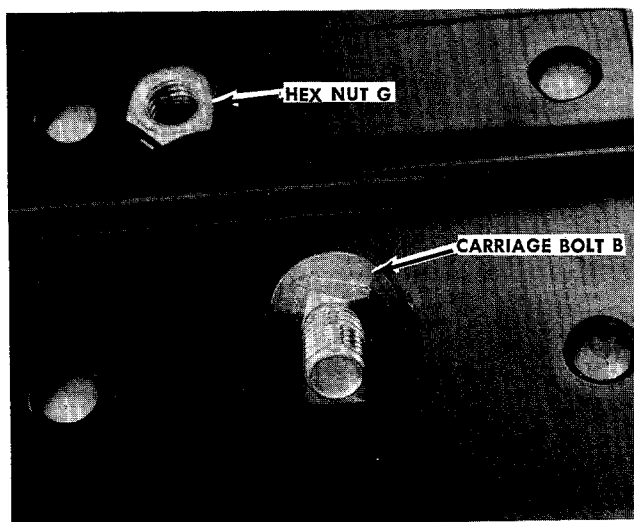

FIGURE 2. ATTACHING SEAT BOLT
SEAT ASSEMBLY. See figures 2 and 3.
Step 7. Hook the large carriage bolt B into the bottom of the seat as shown in figure 2.